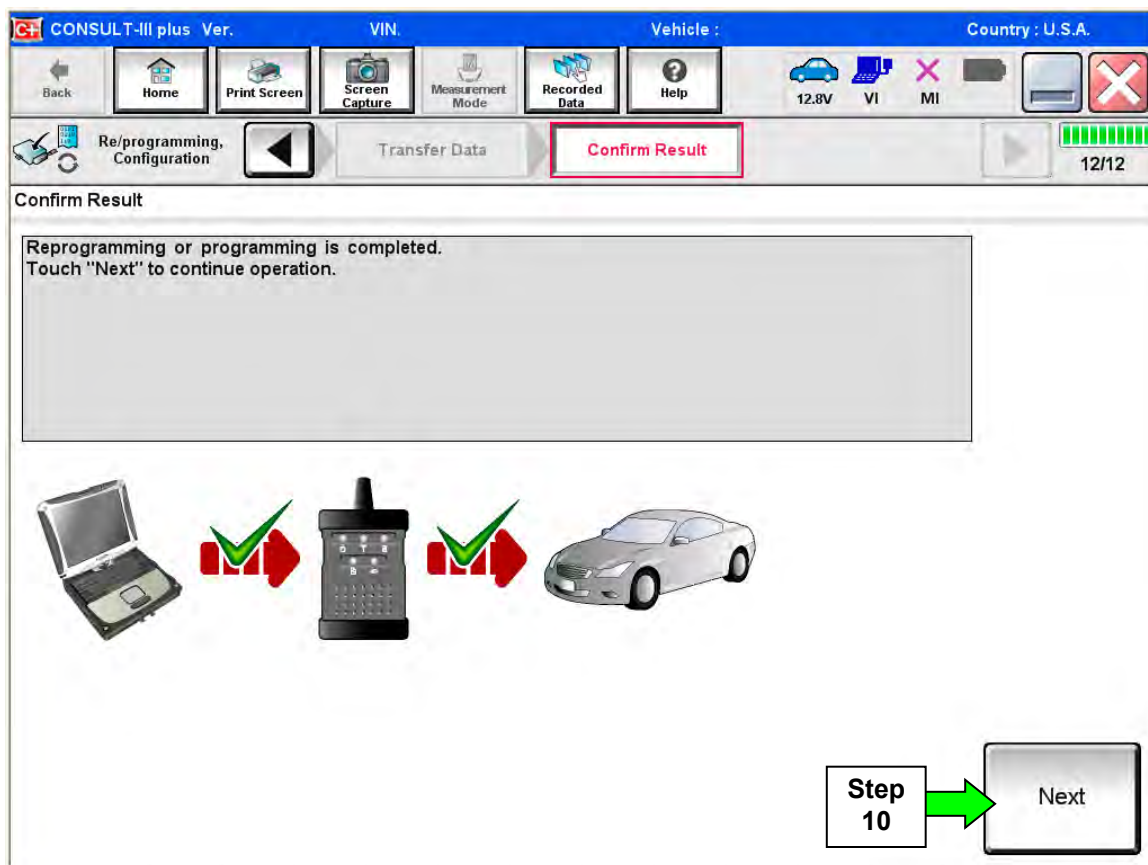

Figure 5K
8. When the screen in Figure 5K displays, reprogramming is complete.
NOTE: If the screen in Figure 5K does not display (indicating that reprogramming did not complete), refer to the information on the next page.